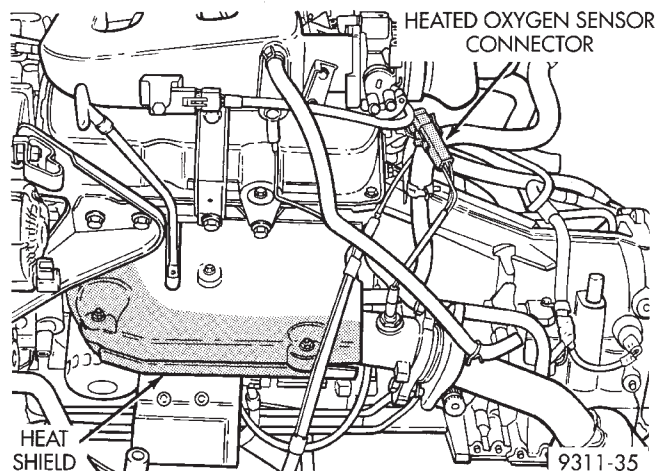

Fig. 36 Heat Shield and Oxygen Sensor Wire Connection
(1) Raise vehicle and disconnect exhaust pipes from the exhaust manifold.
(2) Disconnect Oxygen Sensor lead wire at the exhaust manifold (Fig. 36).
(3) Lower vehicle and remove screws attaching heat shields from the manifolds (Fig. 36).
(4) Remove bolts attaching the manifold to cylinder head and remove manifold.
(1) Install the gasket and manifold.
(2) Tighten attaching bolts to 20 N·m (175 in. lbs.).
(3) Attach exhaust pipe to exhaust manifold and tighten nuts to 28 N·m (250 in. lbs.).
(4) Connect heated oxygen sensor lead (Fig. 36).
(5) manifold heat shield and tighten attaching screws to 15 N·m (130 in. lbs.) (Fig. 36).